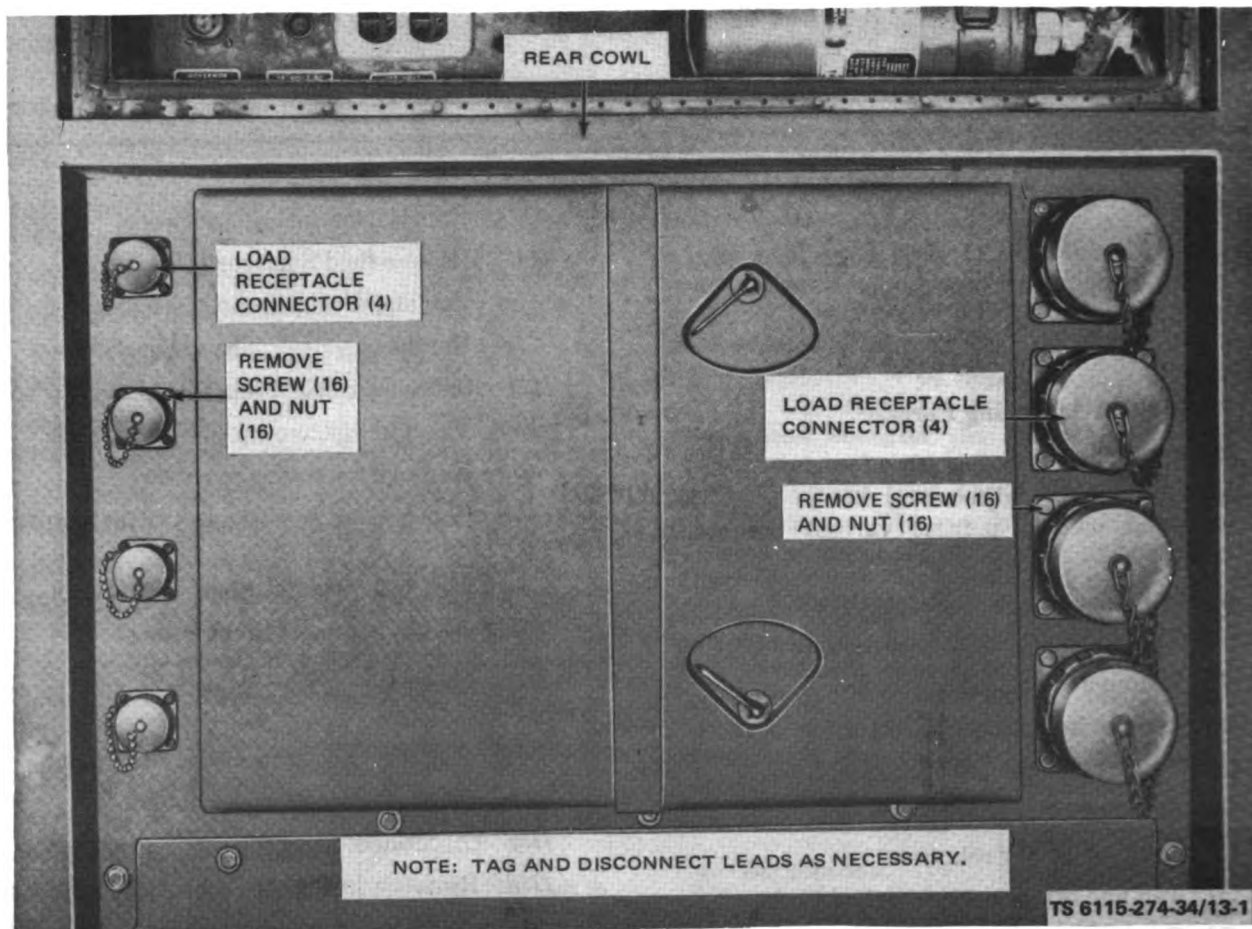

Figure 13-1. Load Receptacle Connectors, Removal and Installation
(17) Remove droop adjusting adjustable resistor.
(18) Remove frequency control adjustable resistor.
(19) Remove main circuit breaker.
(20) Remove load receptacles (fig. 13-1).